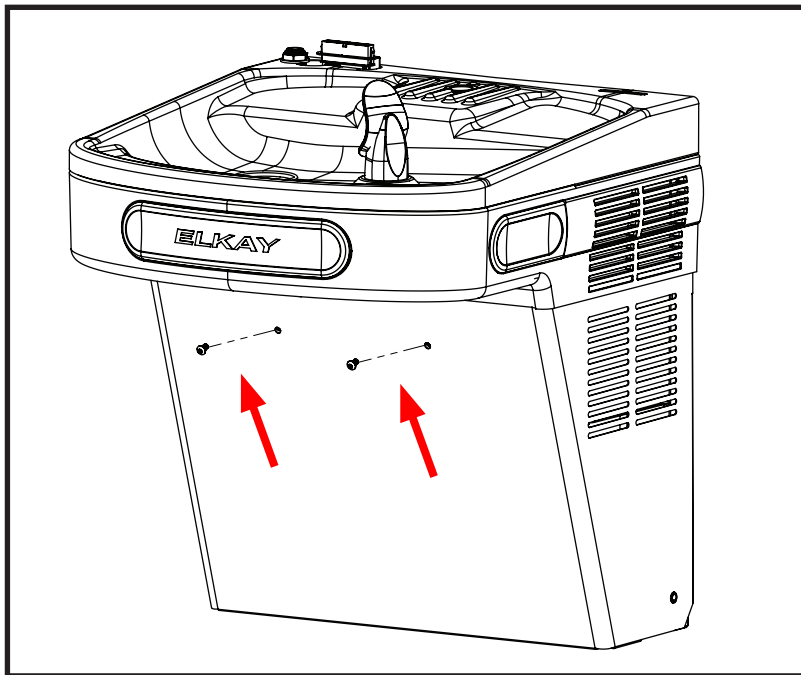

FIG. 5
4) Remove the two front screws holding the lower front panel to the cooler frame (see Fig 5, Pg. 7). Rotate the front panel down (see Fig D, Pg. 6) and remove.
- 1) Remove the two front screws holding the lower front panel to the cooler frame (see Fig 5, Pg. 7). Rotate the front panel down (see Fig D, Pg. 6) and remove.
1. Remove the two front screws holding the lower front panel to the cooler frame (see Fig 5, Pg. 7). Rotate the front panel down (see Fig D, Pg.6) and remove.